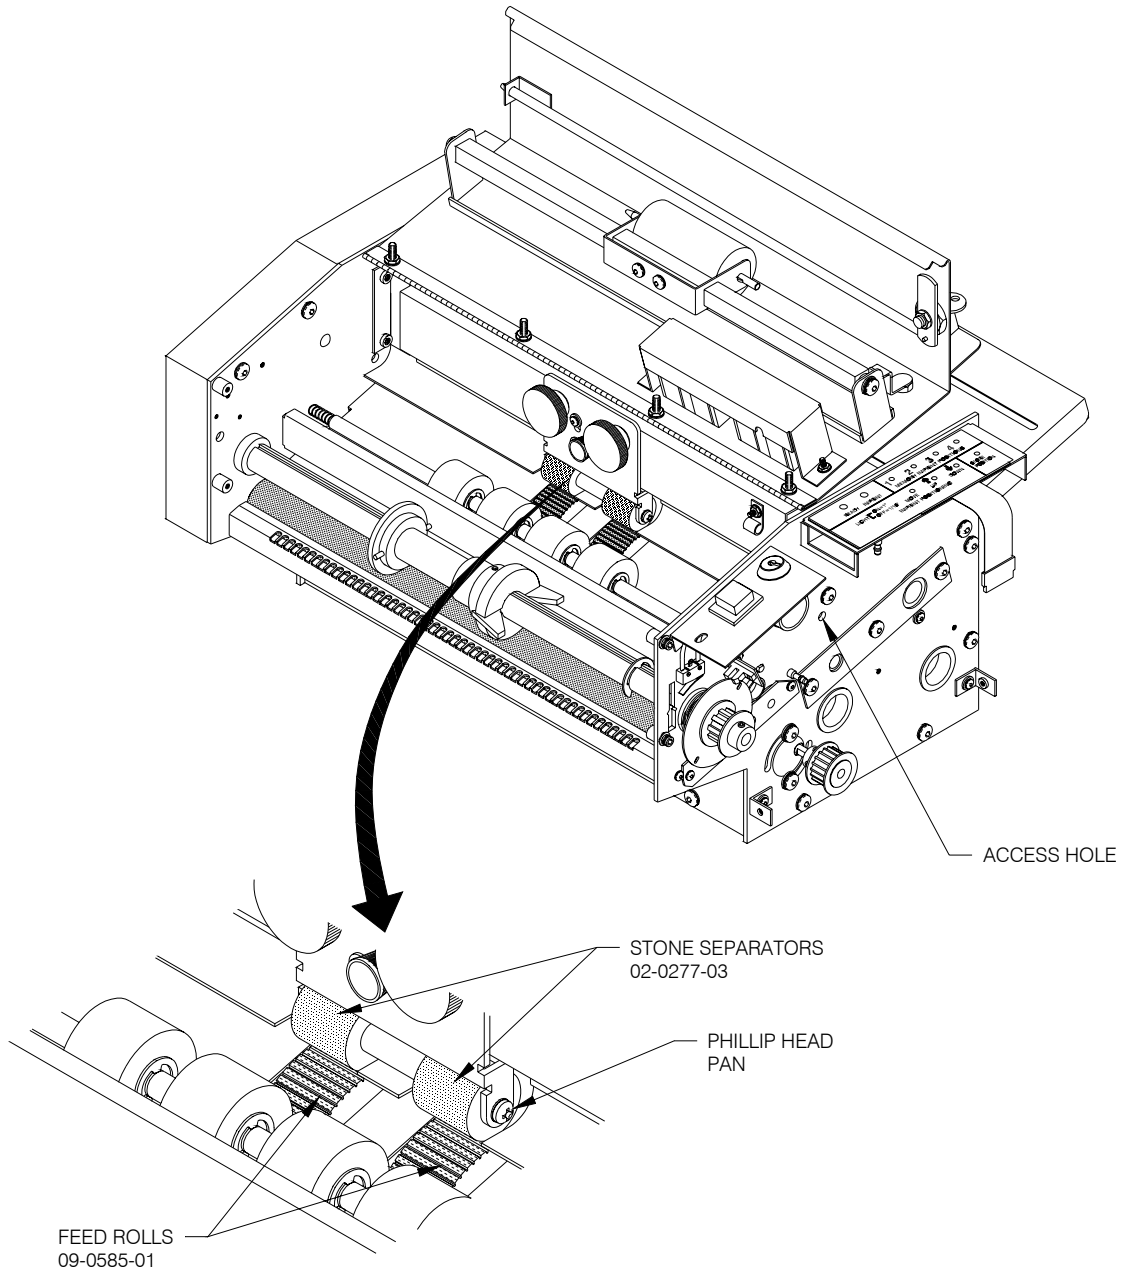

Figure 7.21 -- Reaching & Replacing the Separators
3. Slightly rotate the SEPARATORS. (Refer to **Figure 7.21.**) Test to be sure that the contact between the SEPARATORS and the FEED ROLL is consistent on both sides by sliding a strip of paper between the separators and the rolls and feeling for constant drag. Rotate SEPARATORS until drag is consistent and a clean section of the SEPARATOR is in contact with the FEED ROLL.
4. Remove the SEPARATORS and their shaft from the assembly. (Refer to **Figure 7.21.**)